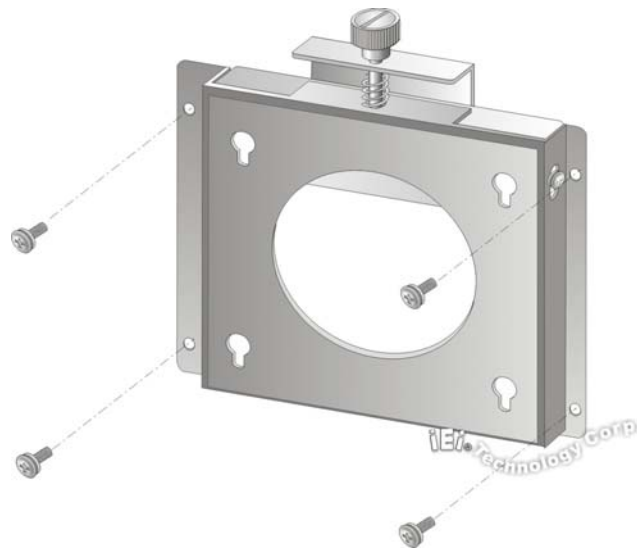

Figure 3-10: Wall-mounting Bracket
- Step 5:** Secure the mounting-bracket to the wall by inserting the retention screws into the four pilot holes and tightening them (**Figure 3-10**).